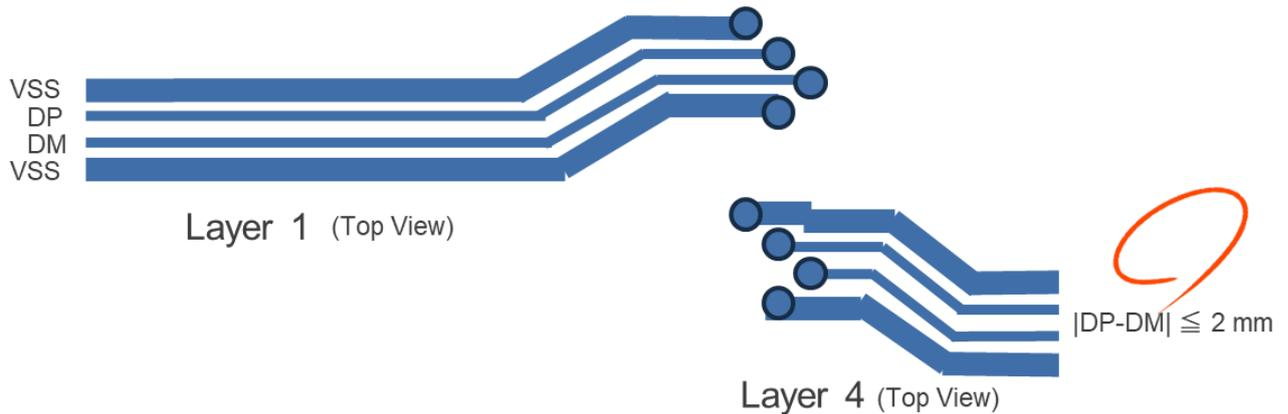

Figure 16, Recommended Design Diagram for Differential Signals
- Differential signals (DP, DM) are designed with a differential impedance of  $90 \Omega \pm 10\%$  and are wired in pairs (same length, parallel, same width, same number of bends, same number of THs). The approximate trace length difference is within 2 mm (See Figure 16). Shield with USB VSS. If it is not possible to shield, do not space it from other signals (especially traces with large currents or high-speed signal patterns) or parallel them. Do not cross as much as possible. Slots/slits in adjacent layers should also be avoided.